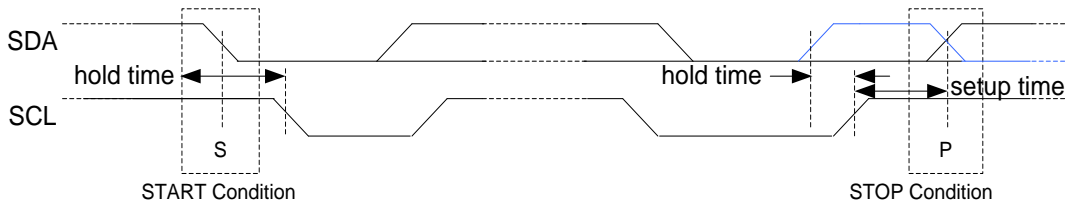

Figure 41. START and STOP (or repeated START, blue line) condition
An idle I²C bus state occurs when both SCL and SDA are not being driven by any master and are therefore in a logic HI state due to the pull up resistors. Every transaction begins with a START (S) signal and ends with a STOP (P) signal. A START condition is defined by a high to low transition on the SDA while SCL is high. A STOP condition is defined by a low to high transition on the SDA while SCL is high. START and STOP conditions are always generated by the master. This slave module also supports repeated START (Sr) condition which is same as START condition instead of STOP condition (the blue-color line shows repeated START in Figure 41).